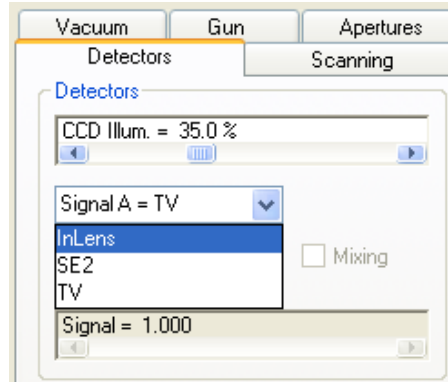

Figure 13: Detector tab.
9. Change the detector signal to InLens as shown in Figure 13. The InLens detector Works only for acceleration voltages -EHT- of less than 22 kV. This is because the electrons are actually slowed down by about 8 kV between InLens detector and final lens. The maximum voltage that the power supply can produce is 30 kV, so that at 20 kV EHT setting they are accelerated to 30 keV and then slowed down to 22 keV before reaching the sample. This way the secondary electrons produced in the sample are accelerated back into the column by those 8 kV and hit the InLens detector (it is located inside the column) with 8 keV. This results in a high signal-to-noise ratio. For higher voltages (>22 kV) you can use the SE2 detector, which is located in the system chamber, viewing the sample at an angle.